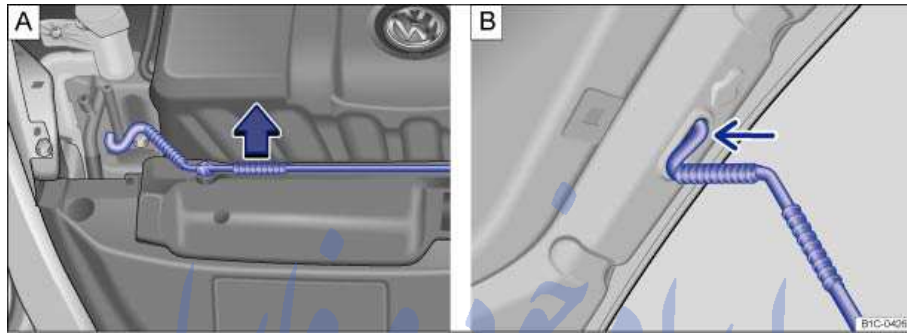

Fig. 141 A: In the engine compartment: Bracket for hood support. B: Hood propped open.
- Pull the hood support out of its bracket in the direction of the arrow ⇒ fig. 141 A and insert it into the opening in the hood ⇒ fig. 141 B (arrow).
- Take out the hood support and clamp it in place in its bracket ⇒ fig. 141 A.